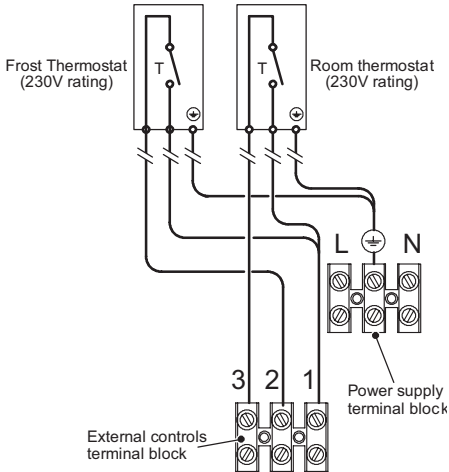
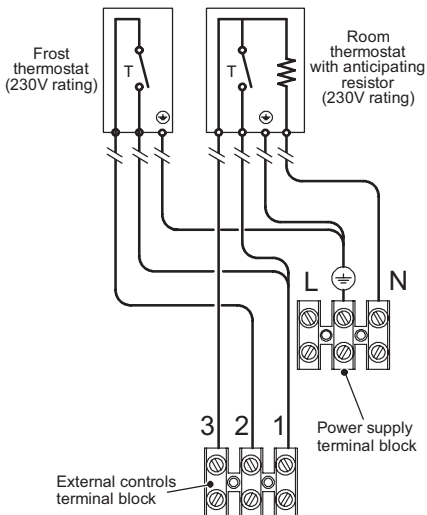

Fig. 6.19
Fig. 6.20
- Connect the frost thermostat between terminals 1 and 2 as shown in Fig. 6.19 or Fig. 6.20. **Do not connect live wires to terminals to which the room thermostat must be connected.**